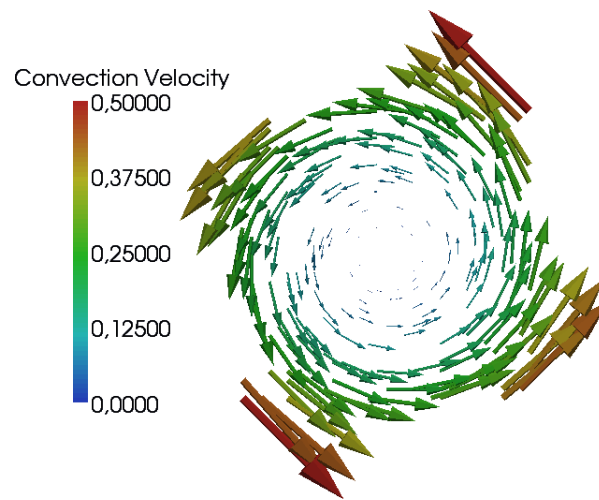

Figure 1: Convection velocity a for the instationary problem
Figure 1 show the convection velocity a given in (8).